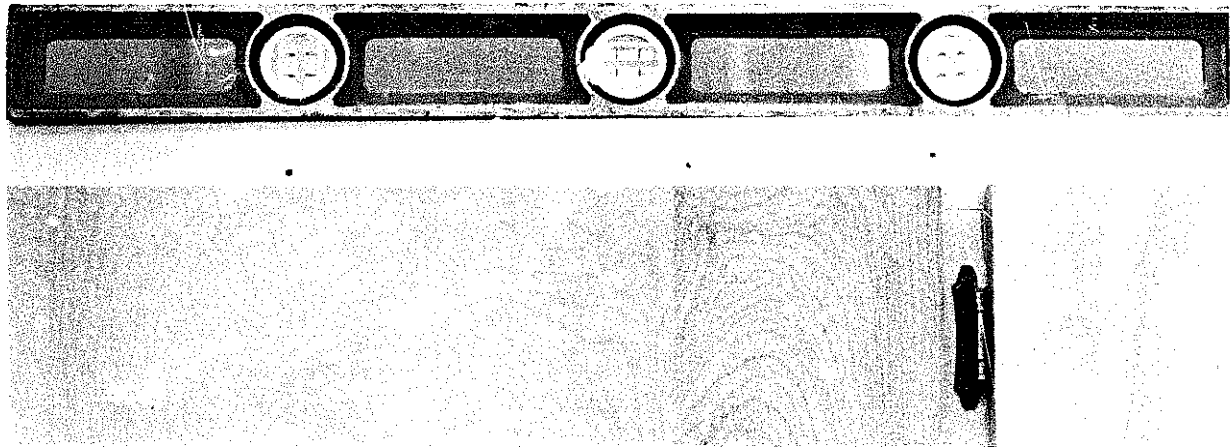

Fig. 5-5 Testing for levelness
1. Place the level on the surface to be tested as shown in figure 5-5. Be sure that the body of the level is parallel with the edge of the surface being tested. There should be no particles of dirt or any irregular surfaces between the bottom of the level and the board.